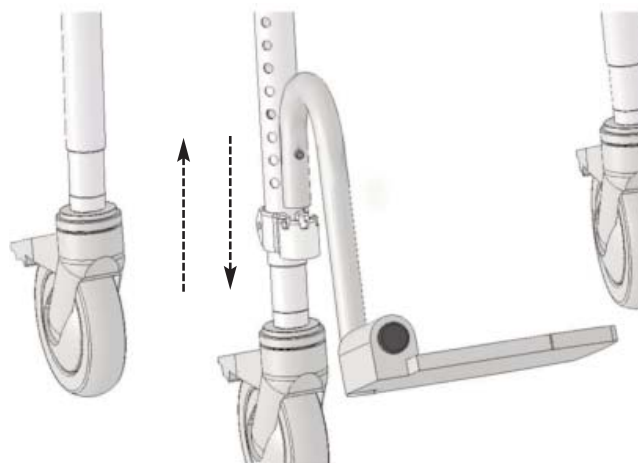

Figure 21
**E Footrest Assemblies:** Footrest clamps are installed on the front legs at the factory. Slide the footrest into the clamp. Loosen the pinch bolt on the footrest clamp and slide up/down as required by the user's leg length (Refer to Figure 21).